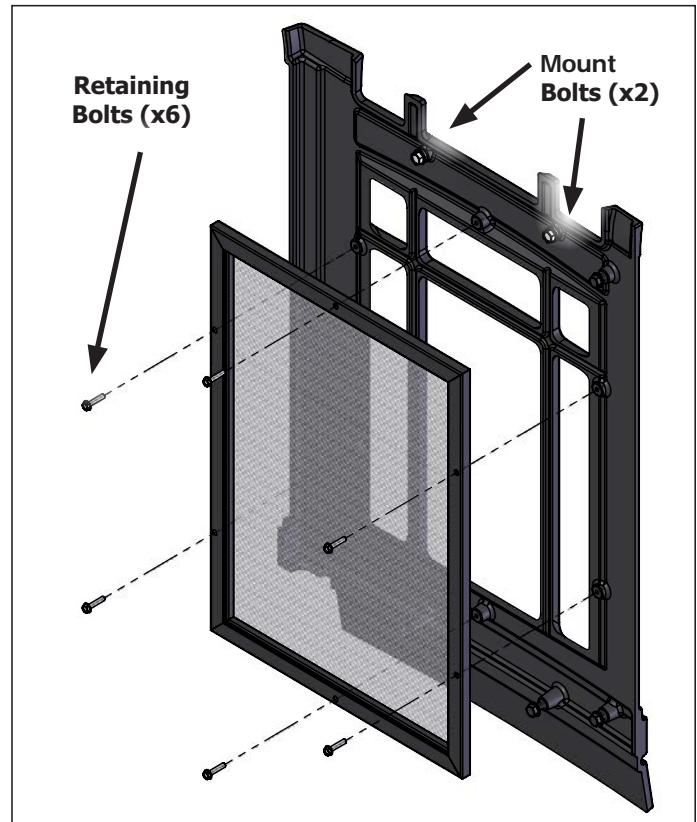

Figure 64. Safety Screen Removal - Side
Step 6: Remove the six (6) retaining bolts (Figure 64) using a 1/4" socket and remove the damaged screen while noting the orientation. Install the new screen (50-3716) by simply re-installing the retaining bolts.
Step 7: Re-install the cast side and tighten the two (2) top mount bolts. Re-install the cast door and top to finish.